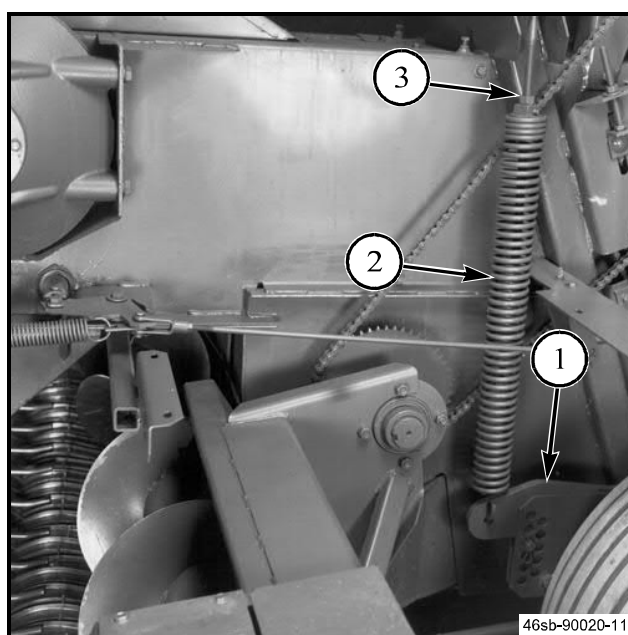

FIG. 9
FIG. 9: The pickup height adjustment gauge plate (1) controls the height of the tines above the ground. The gauge plate gives several height settings for the pickup assembly. Set tine height according to instructions in the Adjustments Section.